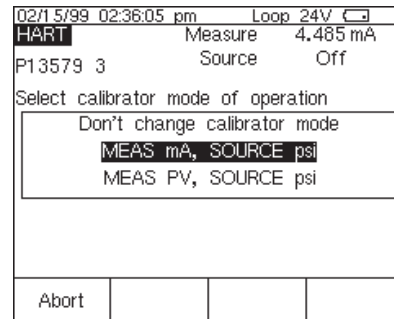

Figure 6
2. Press the **ENTER** key again and you are prompted to select the 744 configuration (Figure 6). Selecting **MEAS mA, SOURCE psi** will configure the calibrator to measure the analog mA output and the pressure being applied simultaneously to the transmitter input and the pressure module. (Selecting **MEAS PV, SOURCE psi** will configure the 744 to evaluate the digital PV output from the transmitter.) Press **ENTER** to select.